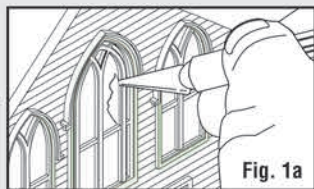

Fig. 1c
- Do not remove placement posts or installation tabs (**Fig. 1c**).